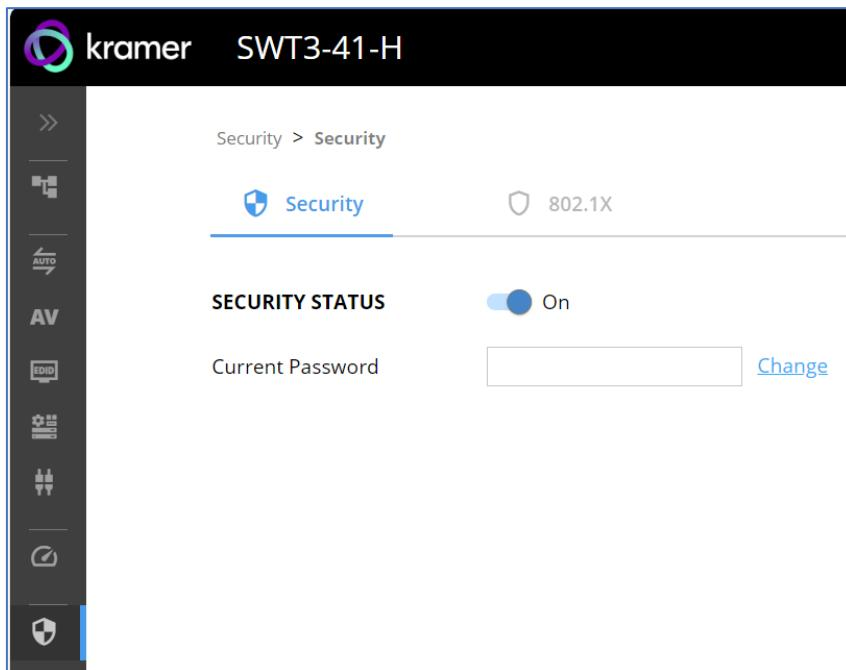

Figure 37: Security – Security Tab
2. Select the Security tab. The Security settings appears (Figure 37).
1. Go to the Security > Security (Figure 37).).
1. Go to the Security page (Figure 37).